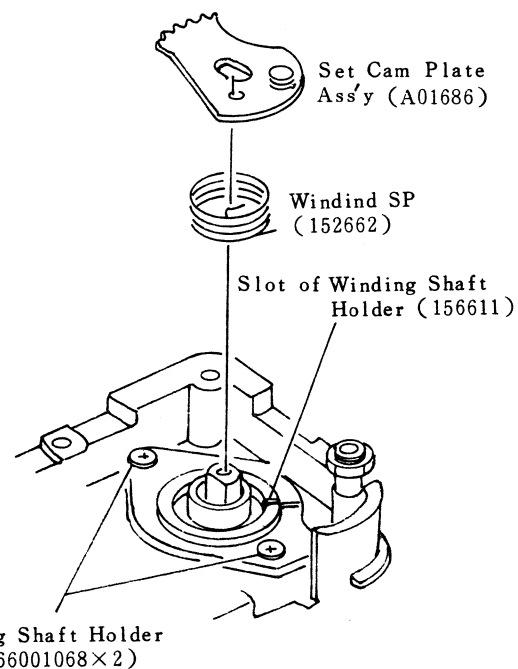

Fig 33
- h) Set the Set Cam Plate Ass'y (A01686) as shown in (Fig 33) and push it in.